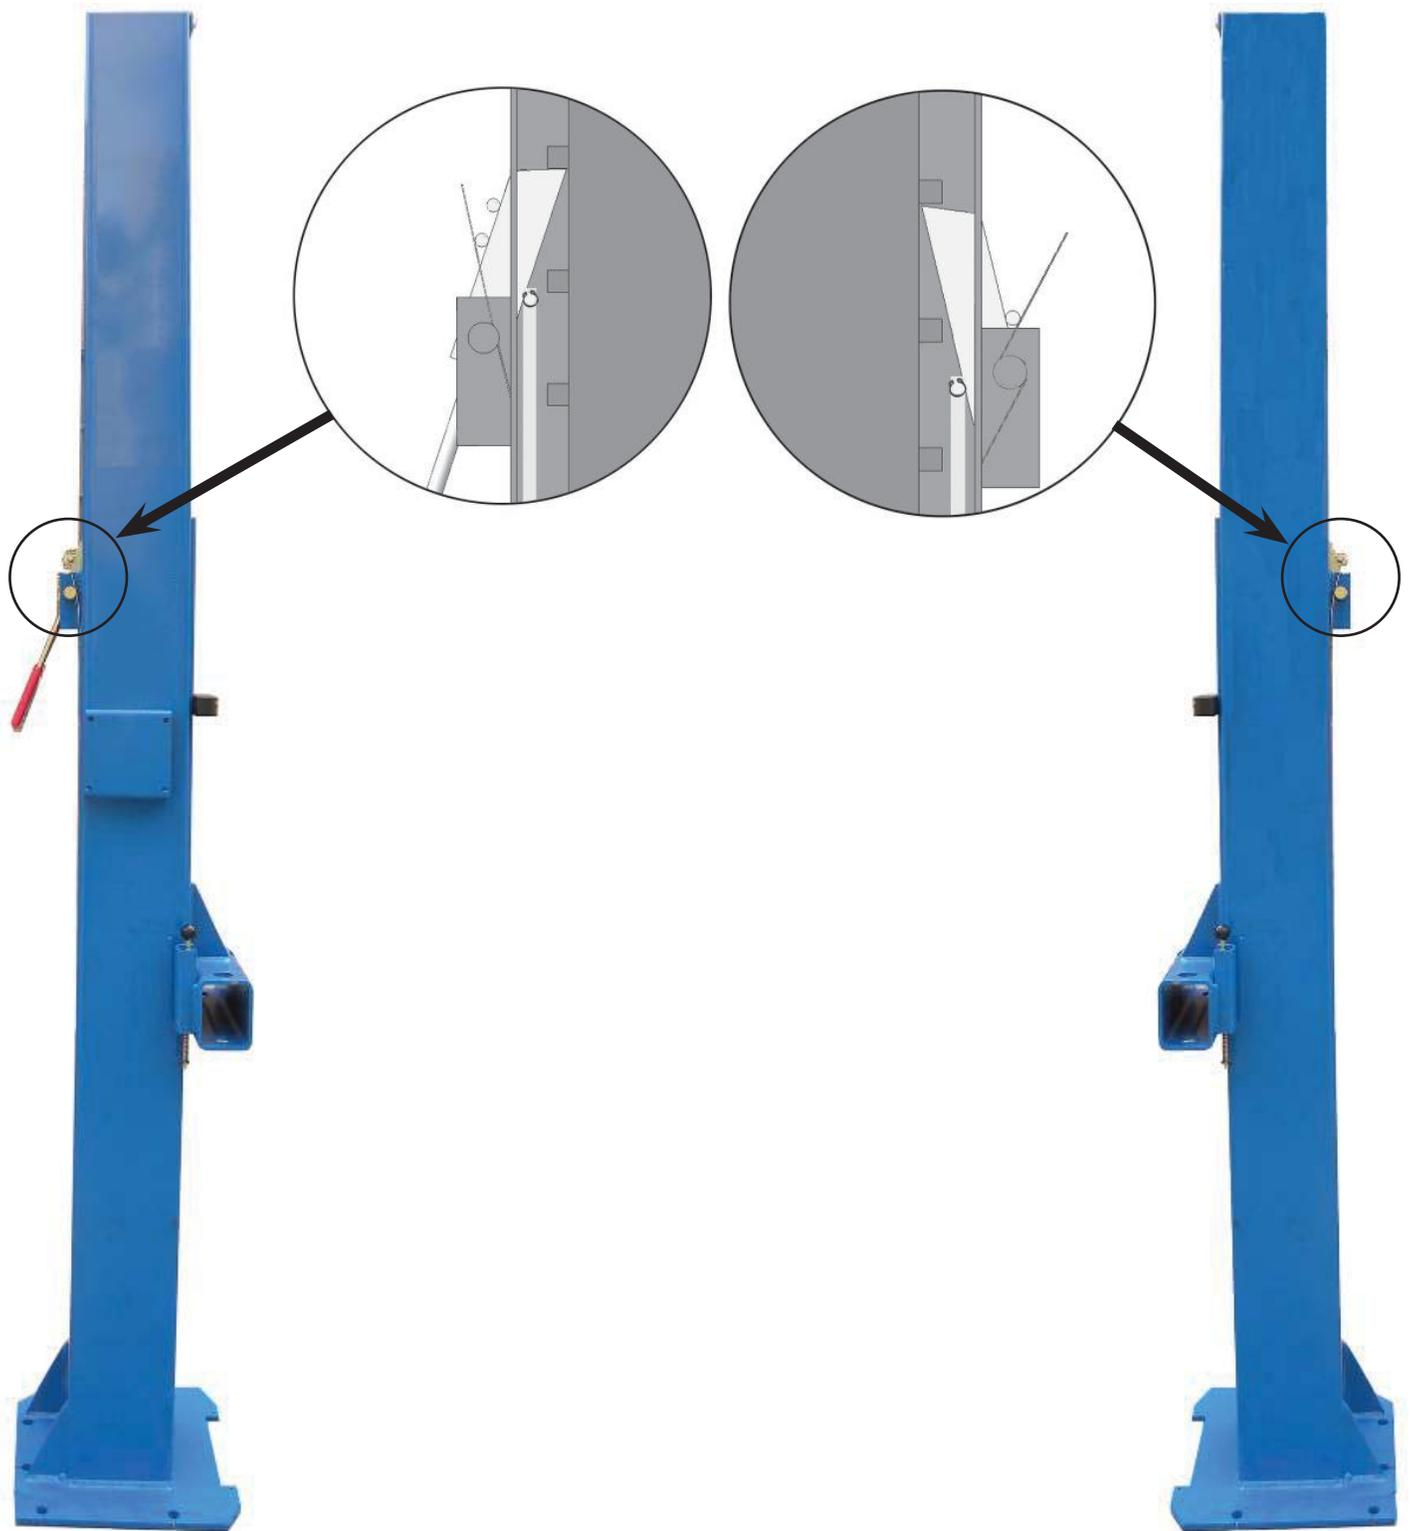

Fig. 24
H. Lift the carriages up by hand and rest them on the first set of locks. (See Fig. 24).